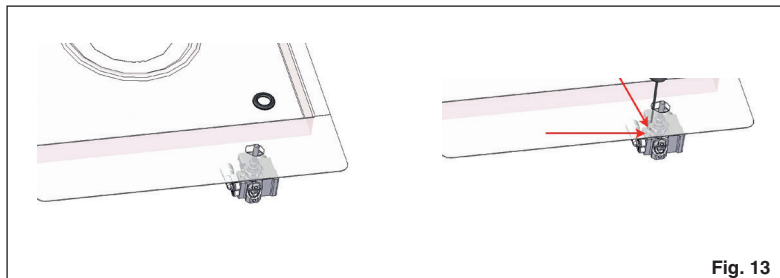

Fig. 13
- replace the injector (Fig. 13) with the corresponding type of gas to be used (see table "User characteristics");
- to adjust to the minimum, use a screwdriver on the screw placed on the tap (Fig. 13) after turning the tap to its minimum position. For GPL (butane/propane) screw tight.